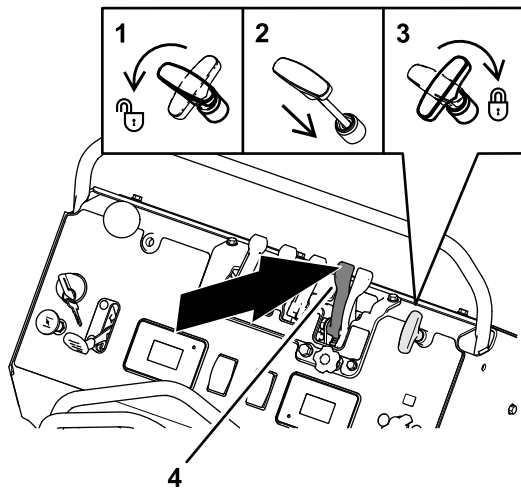

Figure 91
3. Close the impeller gate by pushing the heavy distribution granular-gate lever forward fully (Figure 91).
4. Rotate the spread-pattern-control handle counterclockwise, push the handle down, and rotate the spread-pattern-control handle clockwise(3) refer to Figure 91.